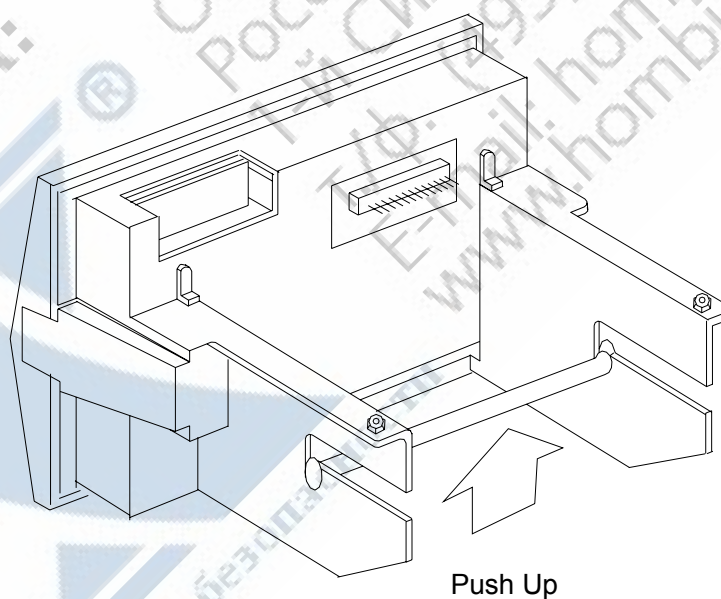

Fig. 8-3
3) Remove the scroll spindle (Fig. 8-3).